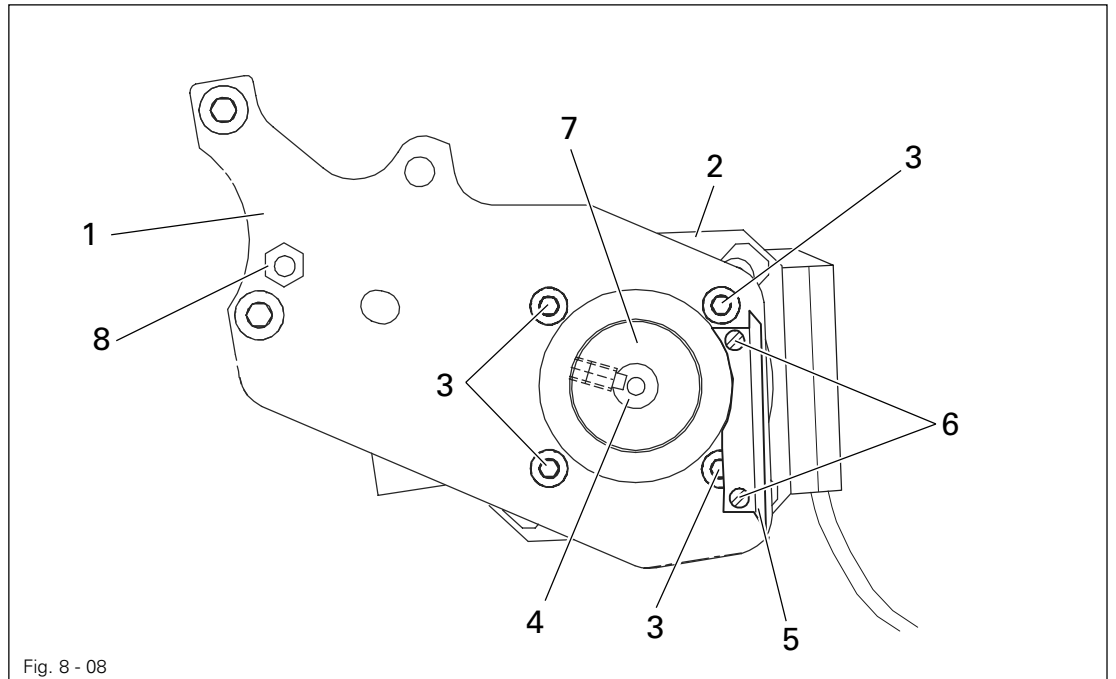

Fig. 8 - 08
- Attach bearing plate 1 to motor 2 with screws 3 as shown in Fig. 8 - 08.